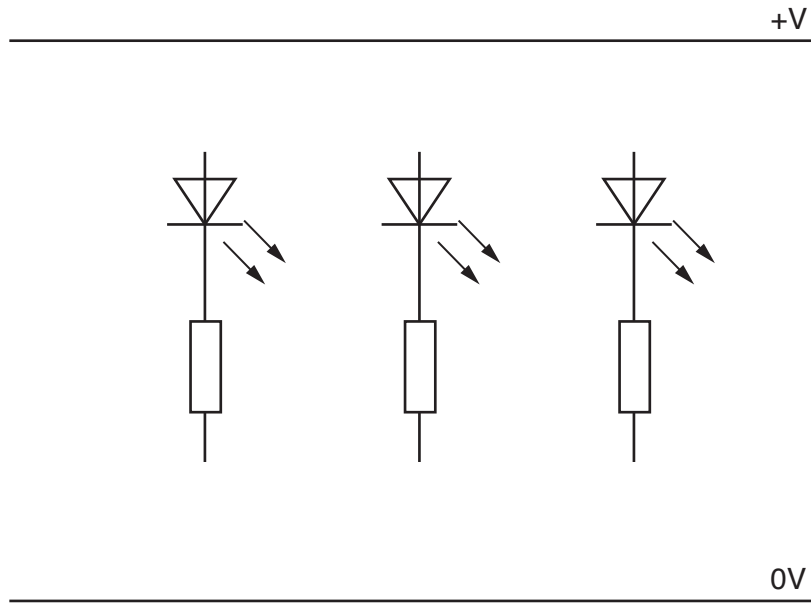

Fig. 12
- (b) (i) Complete the circuit diagram in Fig. 12 to show three LEDs connected in parallel to the power supply.